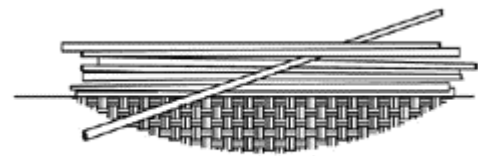

Figure 1
A. STORAGE (See figures 1, 2 & 3)